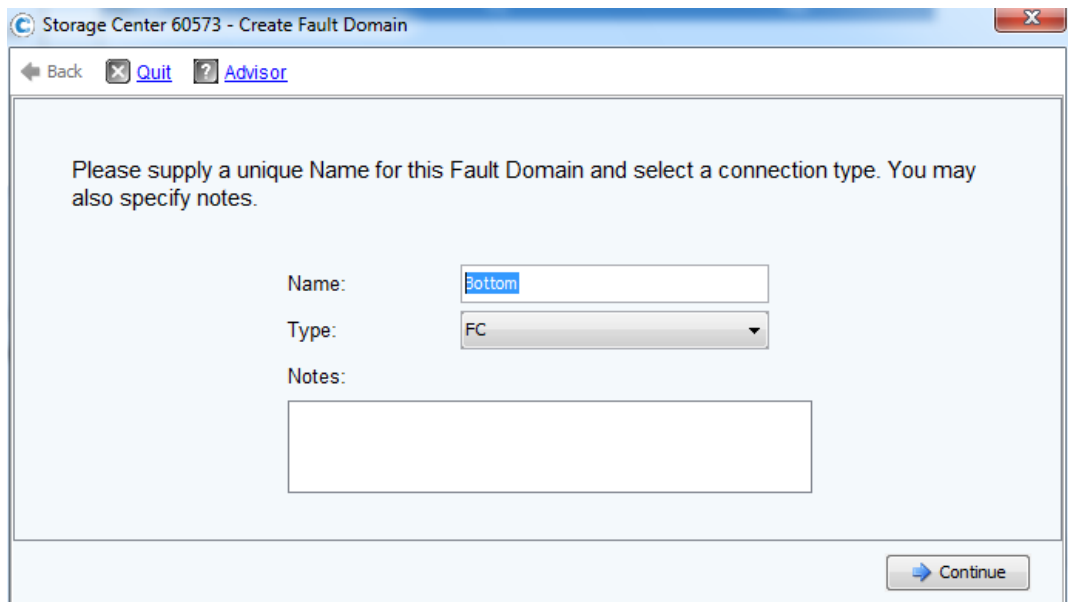

Figure 25. Create Bottom fault domain
8. Create the **Bottom** fault domain, and then click **Continue**, as shown in Figure 25.